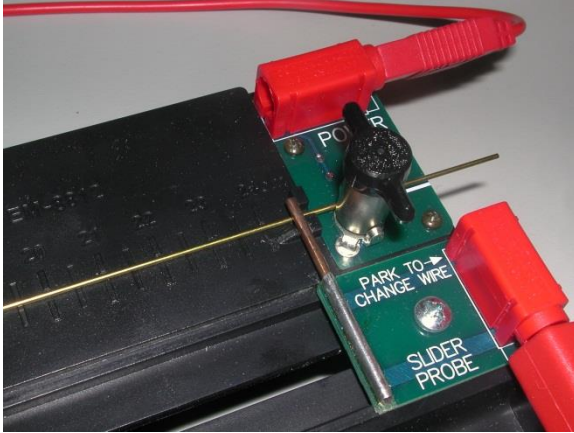
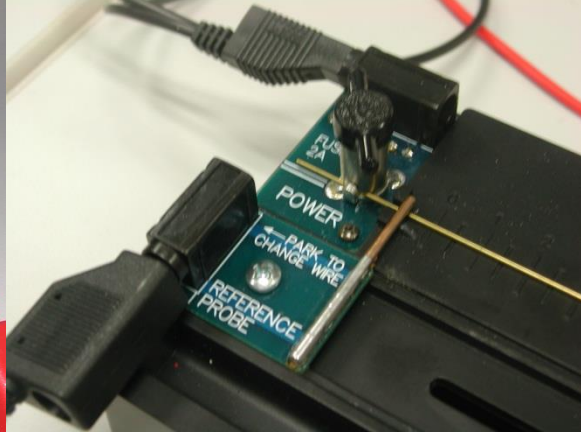

Figure 1: Right Hand Clamp
Figure 2: Left Hand Clamp
- (c) To install a wire in the apparatus, slide from left or right using the white line-up hash marks. Figure 1 shows the right hand side as the wire slides in. Note that on the right hand side, the wire is on the far side of the silver clamp (with black handle), but on the left hand side the wire will be on the near side of the clamp as shown in Figure 2. This prevents the wire from bowing as you tighten the clamps.